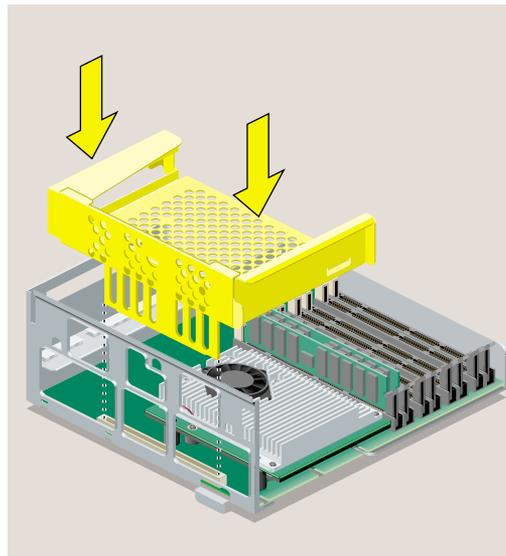

Figure 5-16 Replacing the PCI Tray in the R10000 System Module
- Lower the PCI tray, engaging it on the metal rear panel of the system module (Figure 5-16).